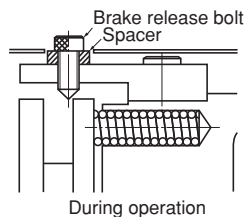

Fig.44
- (2) To return to the original state after releasing the bolts, re-install the spacer, which was removed in step (1), to the original position for safety. (See Fig.44.)